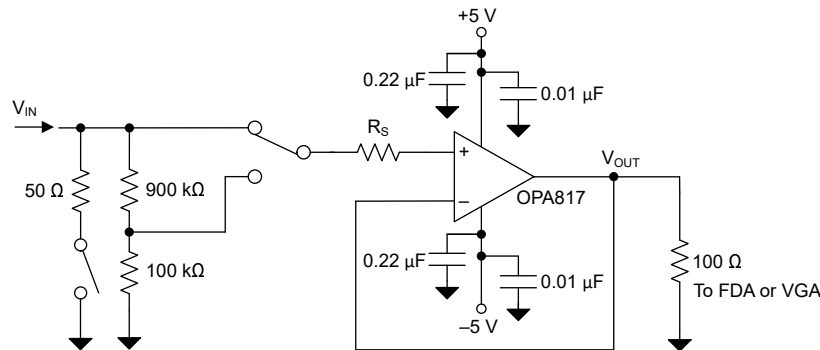
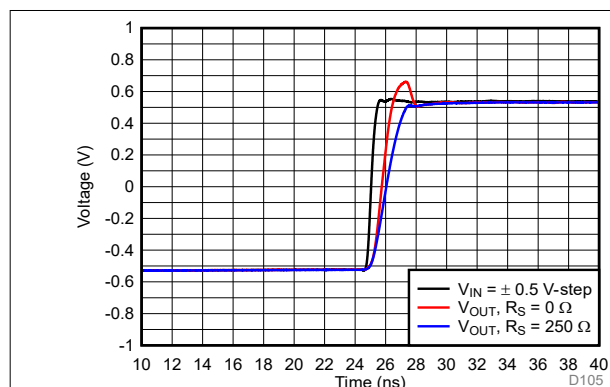
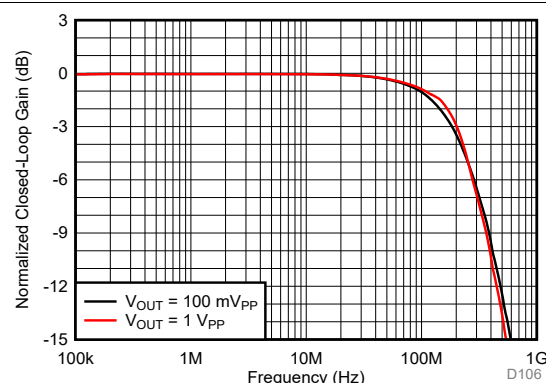

図 8-3. High-Input-Impedance, 200MHz, Digitizer Front-End Amplifier
Figure 8-4. Step Response of Digitizer Front-End
Figure 8-5. Frequency Response for $R_S = 250 \Omega$
- **Optimizing Overshoot:** The OPA817 features an internal slew-boost circuit to deliver fast rise-time in applications needing high slew rates such as when configured as a transimpedance amplifier. For applications where overshoot needs to be limited, the input slew rates can be limited with introducing a series resistance (R_S) as shown in Figure 8-3. The resistance R_S forms a low pass filter with the input capacitance of approximately 2.6 pF at the noninverting pin of the OPA817 limiting the input slew rate to the amplifier. Figure 8-4 shows how limiting the input slew rate to the amplifier results in good overshoot performance, and Figure 8-5 shows how this achieves a small signal and large signal bandwidth of 200 MHz.